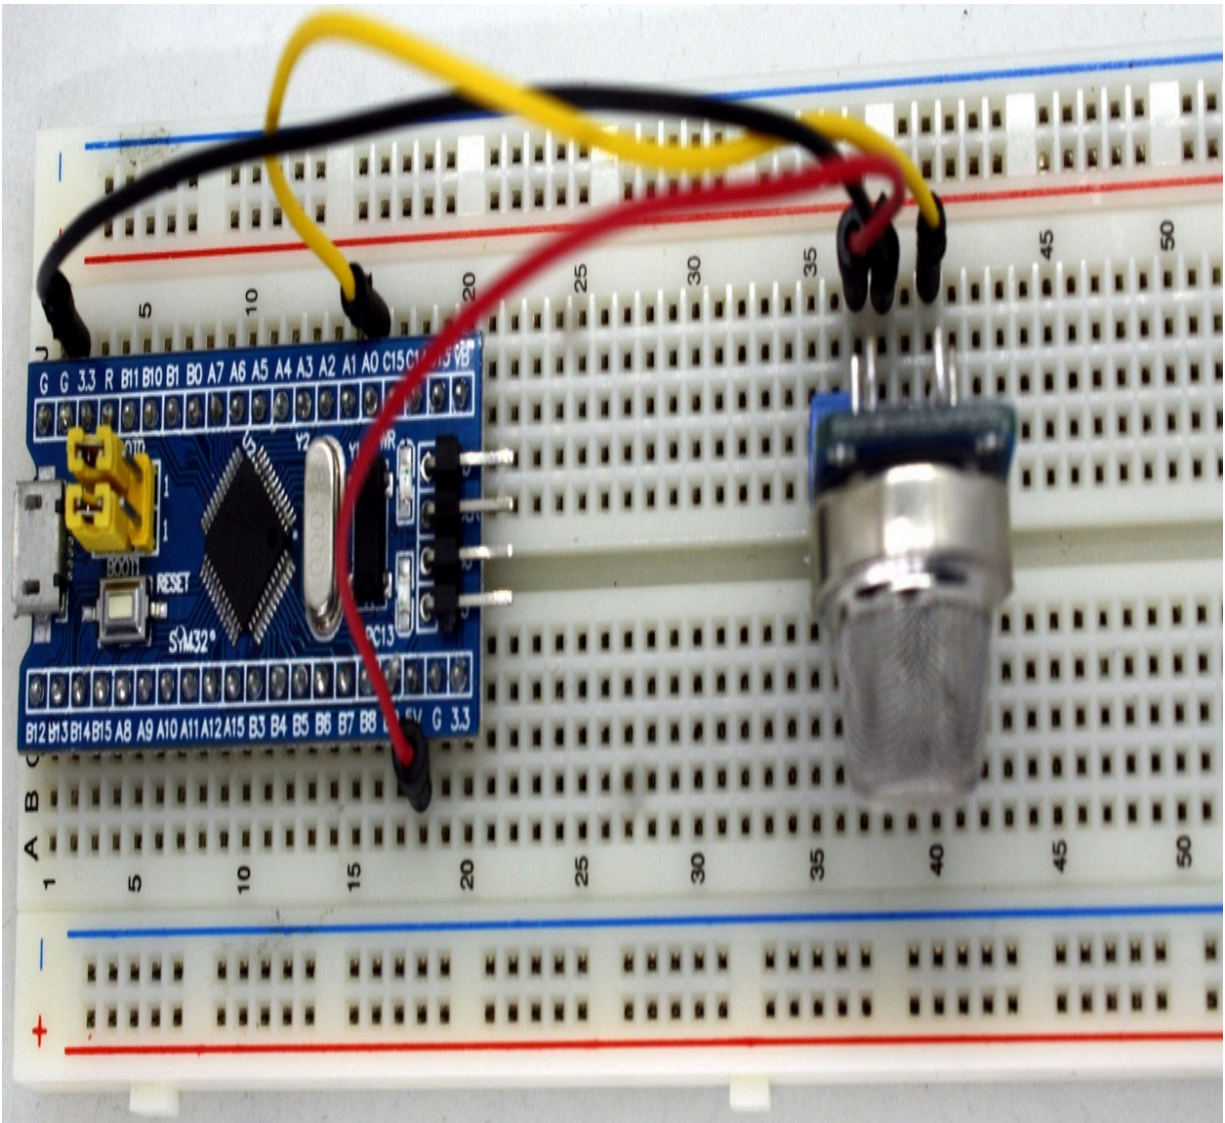

Figure 8.8 – MQ-2 sensor connection for analog reading
1. Disconnect the jumper wire from the DO pin and connect it to the AO pin of the MQ-2 sensor. Also, instead of connecting to pin B12, connect to pin AO of the Blue Pill, as shown in *Figure 8.8*: